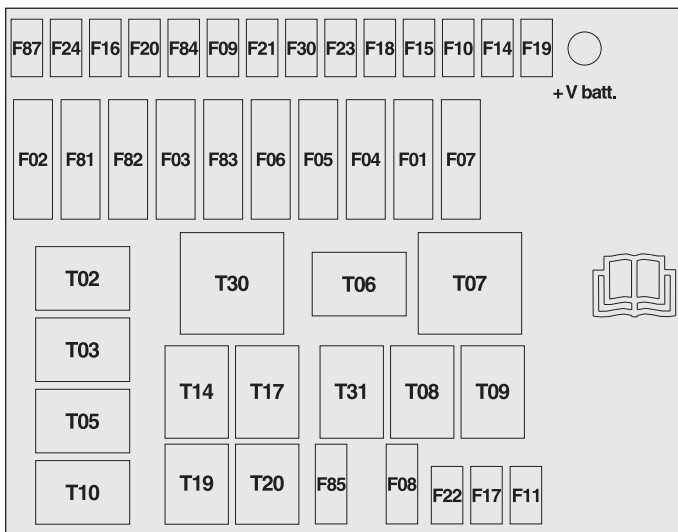

fig. 41
### Engine compartment control unit - fig. 41
**Engine compartment control unit - fig. 41**
fig. 41 a